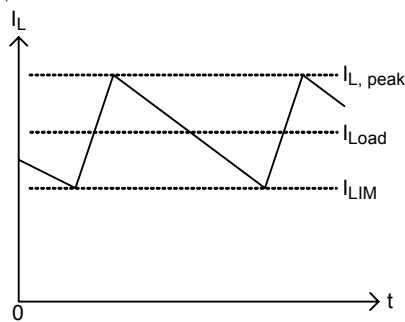

Figure 7. "Valley" Current Limit
RT8208A/B has cycle-by-cycle current limiting control. The current limit circuit employs a unique “valley” current sensing algorithm. If the magnitude of the current sense signal at CS is above the current limit threshold, the PWM is not allowed to initiate a new cycle (Figure 7). in order to provide both good accuracy and a cost effective solution, the RT8208A/B supports temperature compensated MOSFET RDS(ON) sensing. The CS pin should be connected to GND through the trip voltage setting resistor, RCS. The CS terminal source 10μA ICS current, and the trip level is set to the CS trip voltage, VCS as in the following equation.